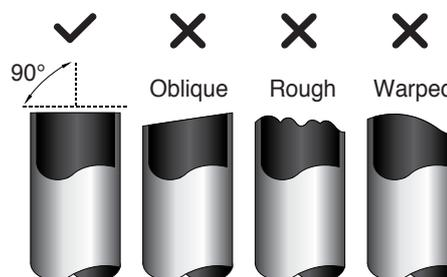

Fig. 7.3
3. Make sure that the pipe is cut at a perfect 90° angle. Refer to Fig. 7.3 for examples of bad cuts.